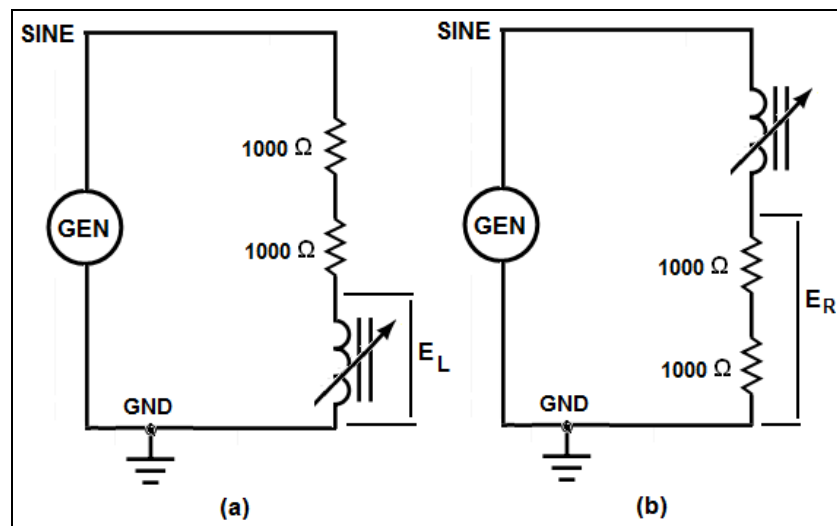

Fig. 1-4 Circuit for Step 7
7. Construct the circuit in Fig. 1-4(a). You will use this circuit to demonstrate a method of measuring the inductance of the circuit. Be sure that the **Frequency Range Switch** is in the **Low** position. Adjust the **FREQ** control so that the output from the generator is **2000 Hz**.
10. Turn **OFF** the Trainer and reverse the leads from the generator so that you have the circuit shown in Fig. 1-4(b).